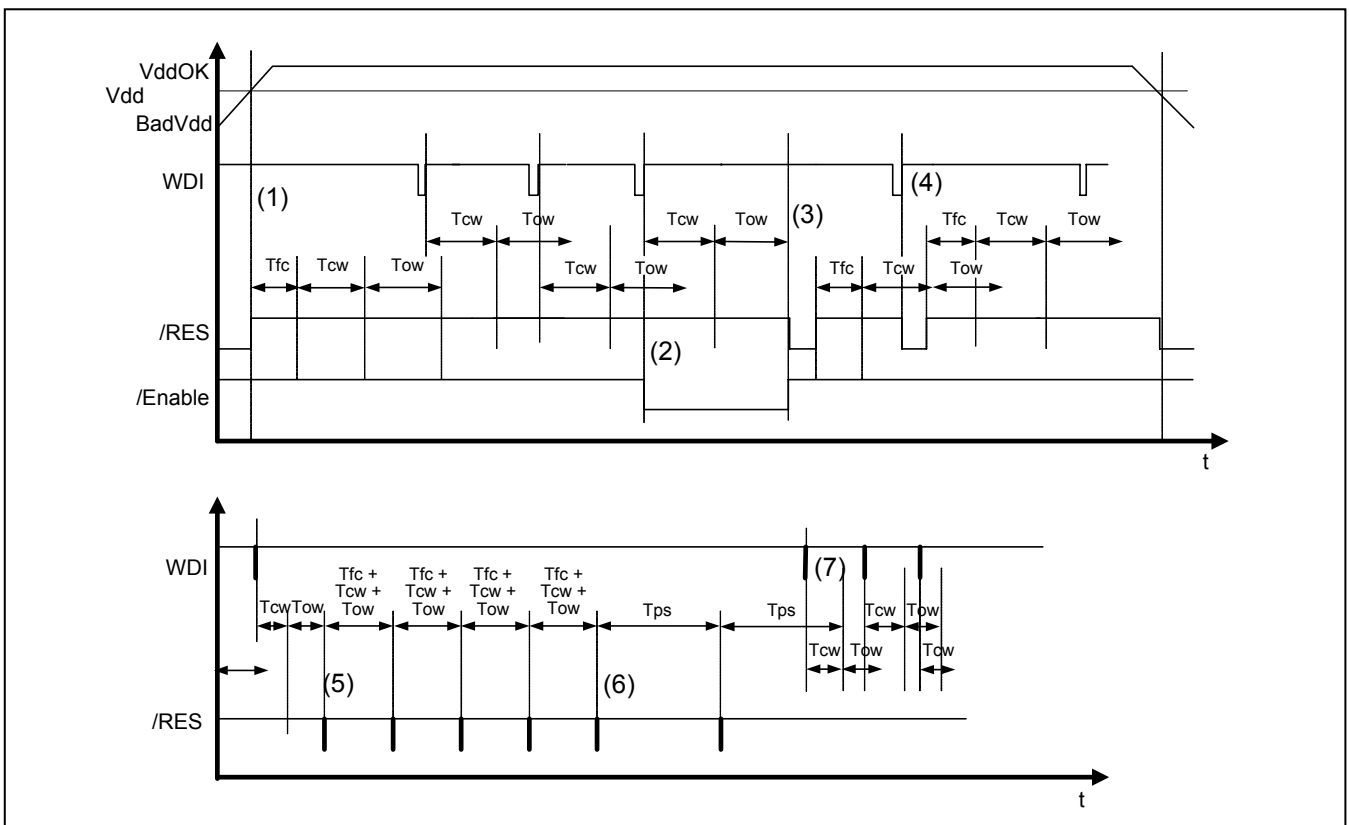

Figure 4. Watchdog timing
The signal behaviour can be seen in the Figure 4. At (1) Vdd passes the threshold and /RES is released. This starts Tfc followed by Tcw. During this time no WDI input is allowed. During Tow, however, a WDI input is required. The next Tcw starts immediately with the active edge of WDI. The enable output is asserted after 3 good watchdog cycles (2) as an enhanced confidence signal. It can be used, for example, to gate motor drivers.